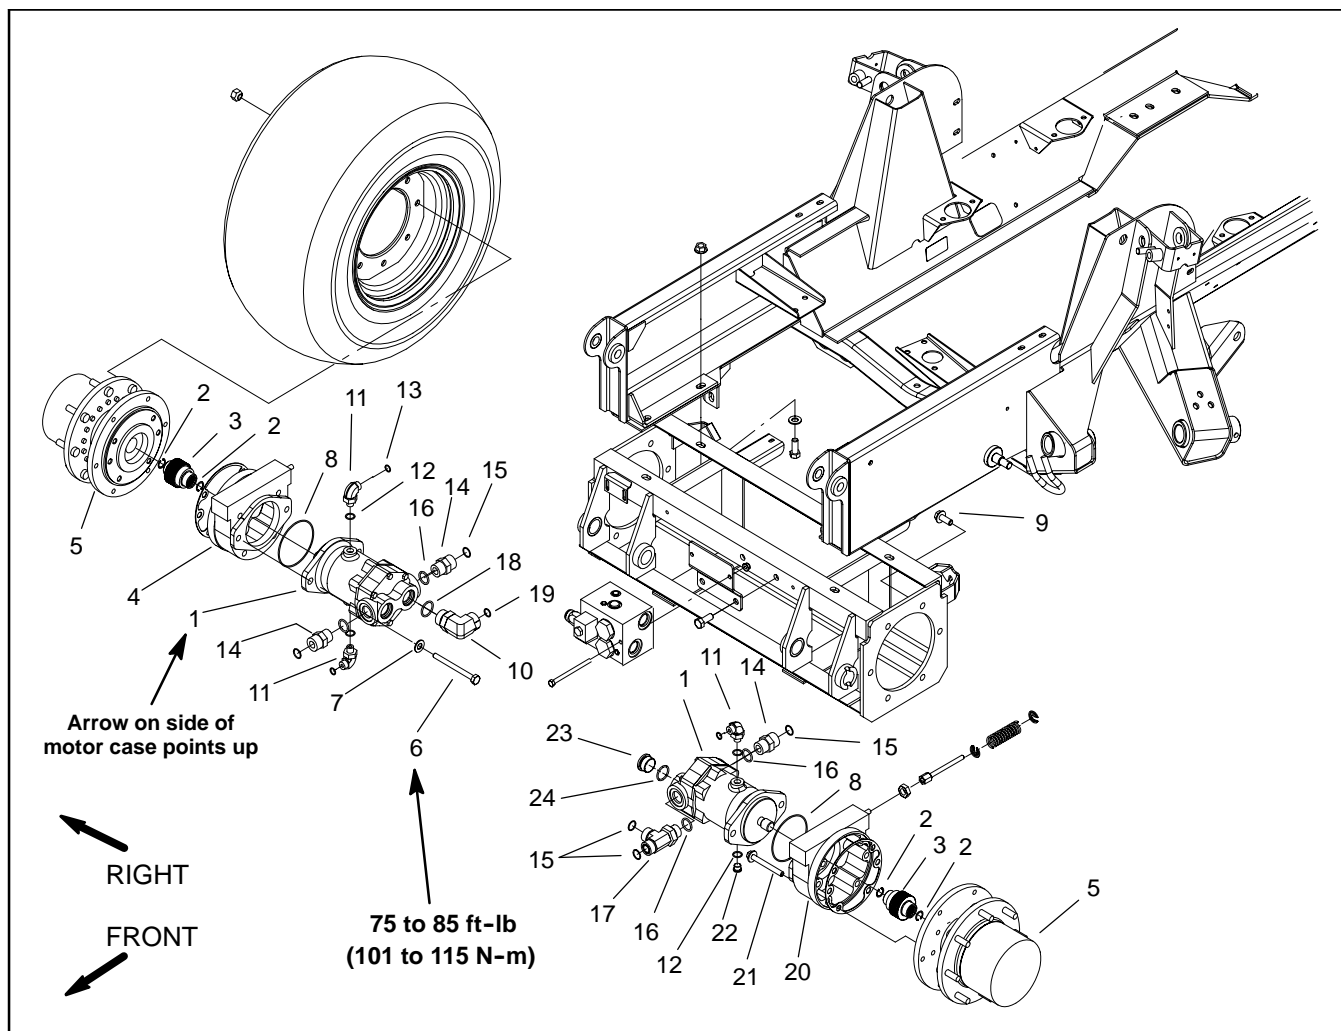

Figure 72
### Removal (Fig. 72)
4. Remove wheel motor using Figure 72 as a guide.
### Installation (Fig. 72)